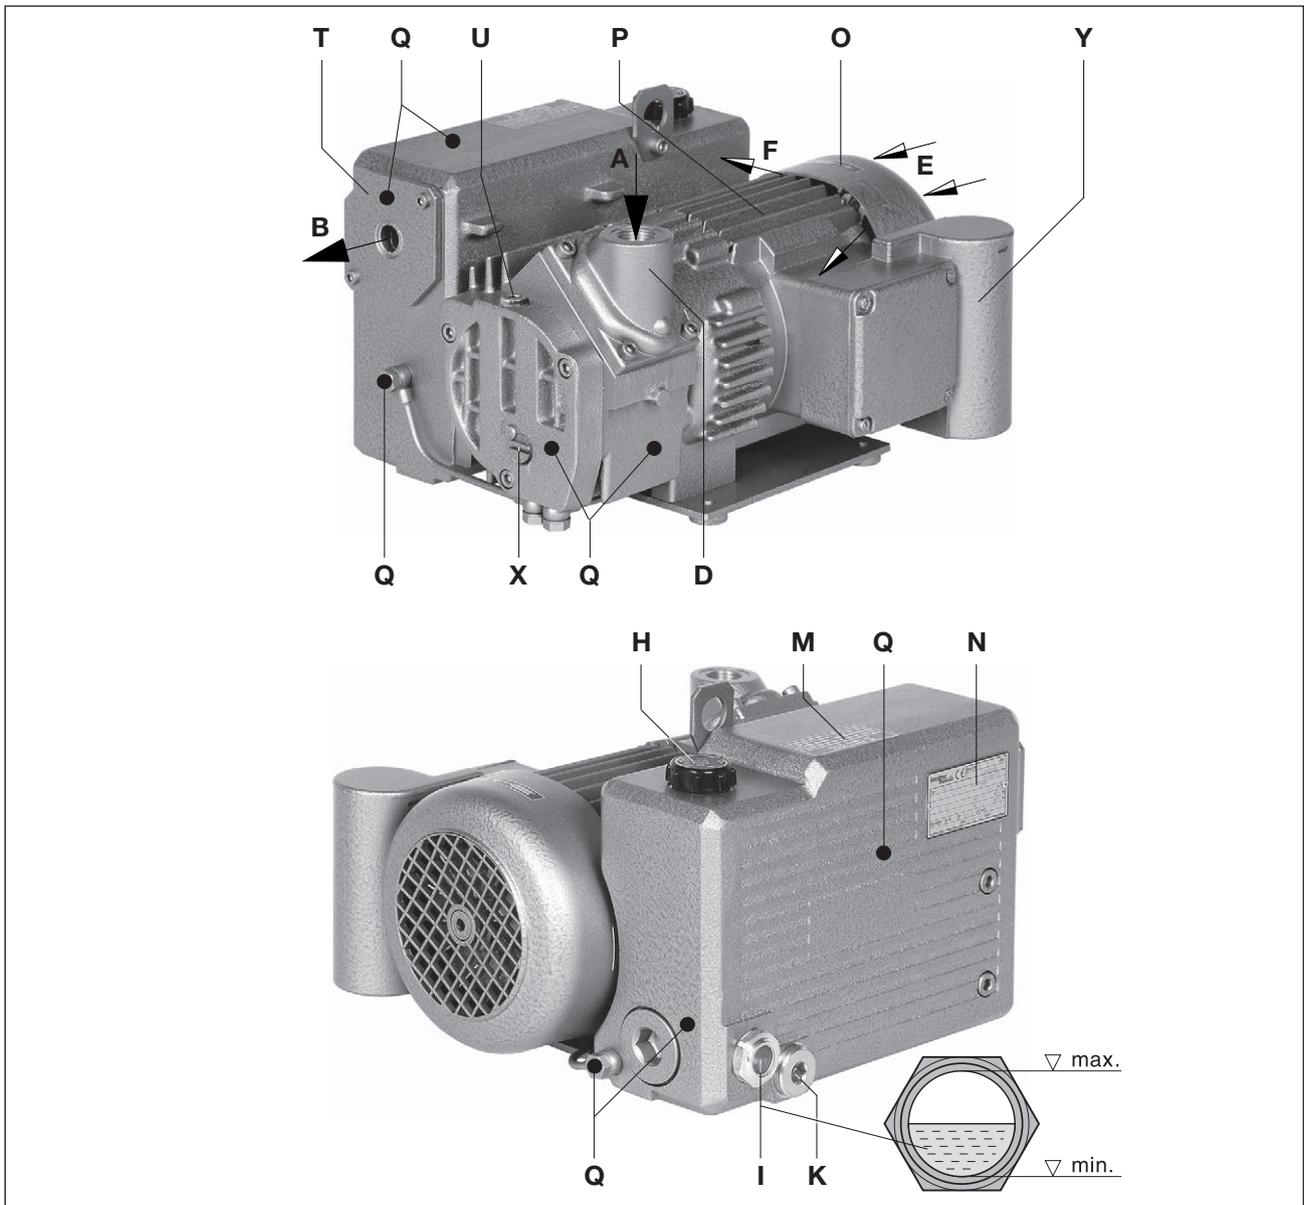

Fig. 2 Vacuum pump V-VGD 10 / V-VGD 15
A gas ballast valve ((Fig. 2/U) →Accessory) prevents water vapour condensation getting inside the pump when low amounts of steam are sucked in when the pump is at operating temperature.
The max. final vacuum (fine vacuum 2 mbars (abs.) or gross vacuum 10 mbars (abs.) can be specified by the operator (see adjustment bolt (Fig. 2/X)).
The oil filling point (Fig. 2/H), oil sight glass (Fig. 2/I) and oil outlet (Fig. 2/K) must be easily accessible. The cooling air inlet (Fig. 2/E) and the cooling air outlets (Fig. 2/F) must be at least 15 cm away from adjacent walls. Cooling air coming out must not be sucked in again. For maintenance work there must be 30 cm in front of the angle flange (Fig. 2/D) and the purging cover (Fig. 2/T)
The air vent (Fig. 2/B) must not be closed or restricted.
- a) The vacuum connection (Fig. 2/A) is on the angle flange (Fig. 2/D).
- b) The discharged air can be freely blown out through the exhaust air hole (Fig. 2/B) or conducted away using a hose or pipe.
- a) Fill the lubricating oil (for suitable types see the „Maintenance“ section) via the oil filling point (Fig. 2/H) up to the upper edge of the sight glass (Fig. 2/I).
- a) The electrical motor data can be found on the data plate (Fig. 2/N). The motors comply with DIN EN 60034 and are in protection class IP55 and insulation class F. The appropriate connection diagram is located in the motor's terminal box (not for the plug connection version). The motor data must be compared with the data of the existing mains network (current type, voltage, network frequency, permitted current value).
When the machine is at operating temperature the surface temperatures on the components (Fig. 2/Q) may go above 70°C. You must avoid touching the hot surfaces (marked with warning plates).
- ▷ The drive shaft direction of rotation is shown by the rotation direction arrow (Fig. 2/O) on the motor flange.